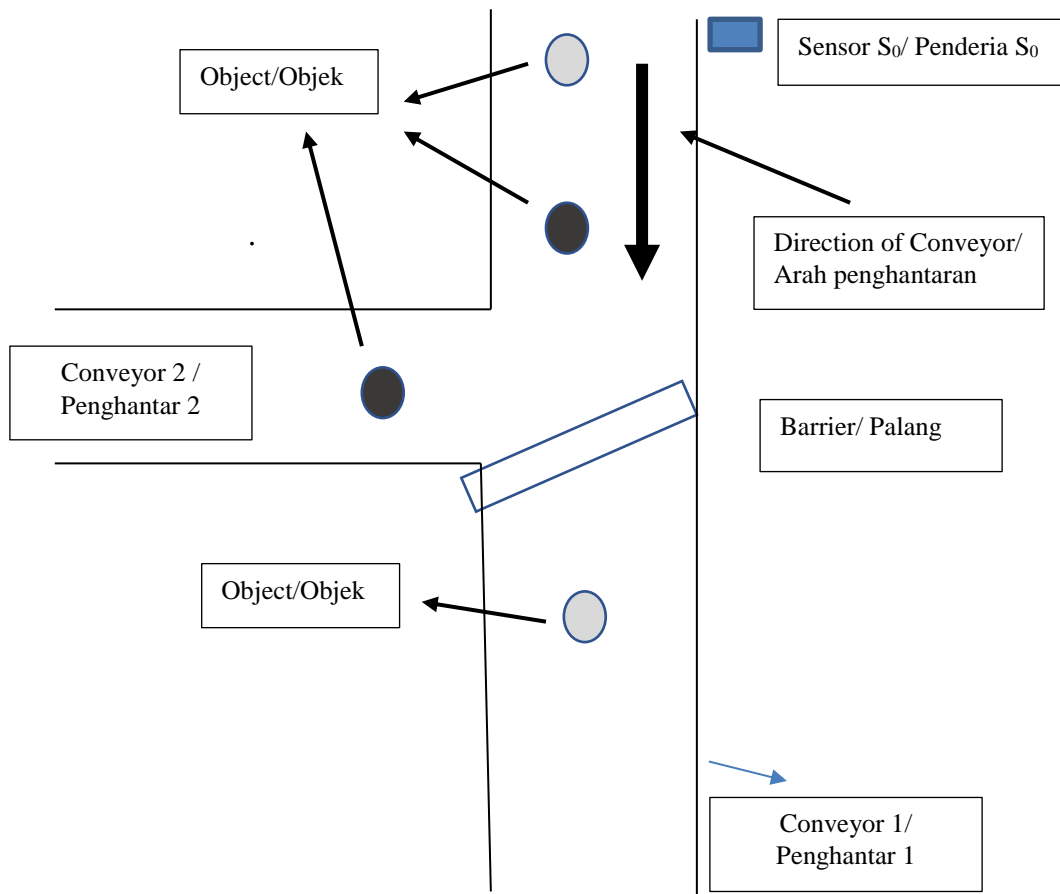

Figure 3
5. Figure 3 shows the process of product sorting process. There are two types of product box available on the conveyor. The object in darker colour is made by aluminium while object in lighter colour is made of glass. The darker object is required to be diverted to conveyor 2 by actuating the barrier which is controlled by a solenoid. The lighter products are transferred on the conveyor 1. The products are randomly placed on the conveyor. Sensor S_0 is used to sense the presence of product on the conveyor.